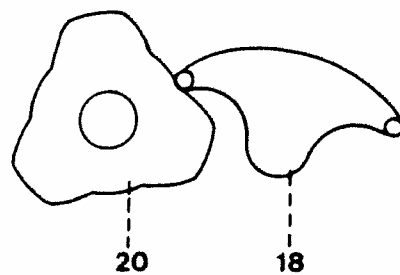

Fig. 14c
- Turn the large gear 23 in the direction indicated by the arrow until finger 18 (fig. 14c) is exactly at the starting point of the rising cam 20.